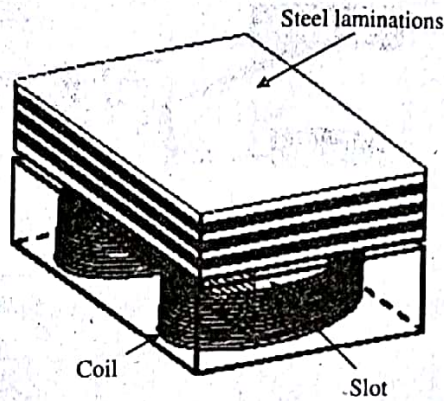

Figure 6.8
- 6) **Slotted-Iron Flat Motors:** In this type of linear motor, the coil windings are inserted into a steel structure to create the coil assembly. The iron core significantly increases the force output of the motor due to focusing the magnetic field created by the winding. There is a strong attractive force between the iron-core armature and the magnet track, which can be used advantageously as a preload for an air-bearing system. However, these forces can also cause increased bearing wear at the same time. There will also be cogging forces, which can be reduced by skewing the magnets. Figure 6.8 shows that Slotted from flat.